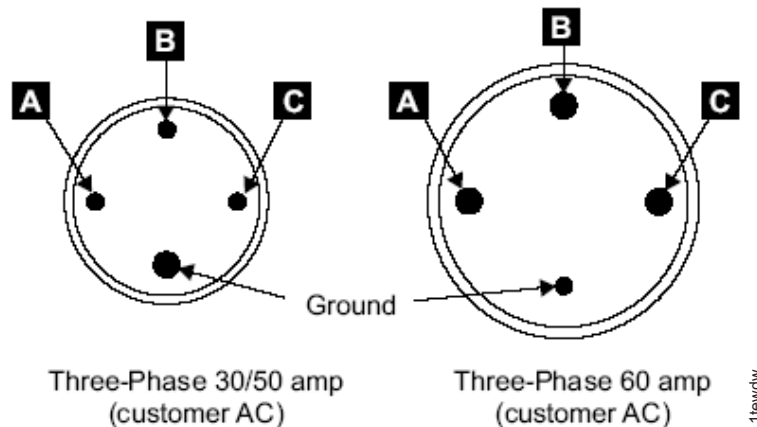

Figure 75. Measuring voltage between each pair of pins
3. Measure the voltage between the ground pin and each voltage pin (A, B, and C) on the customer outlet. Refer to Figure 75 on page 90 for the location of the voltage pins.
Figure 75 for the location of the voltage pins. Verify that the customer AC input voltage that you just measured matches the machine input voltage information on the label.